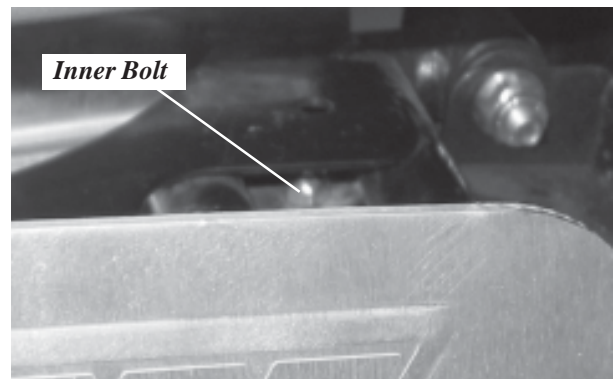

Figure 2
4. Install bottom inner bolt and nut (B2 & B1). Do not tighten. (Figure 2)
5. Fasten through lower mounting holes of guard (A1) to bracket (A3) using 5/16" bolts (B2) and 5/16" nuts (B1). Do not tighten. **(Figure 2)**